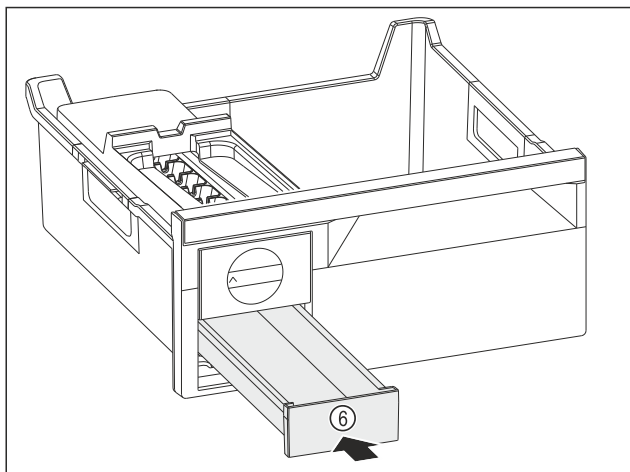

Fig. 159
- ▶ Insert the ice cube drawer Fig. 159 (6).